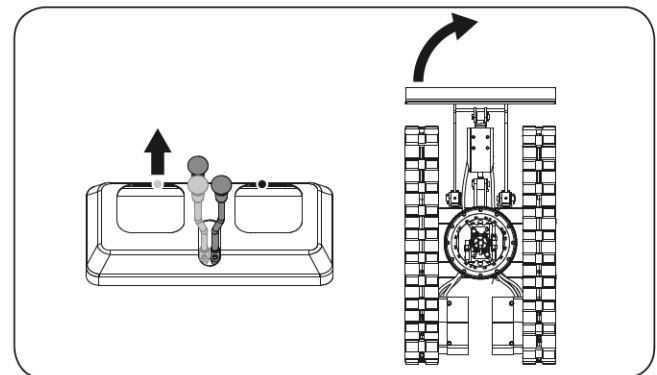

Figure 54
1. Push the left drive lever forward; the excavator will turn to the right. (See **Figure 54**)